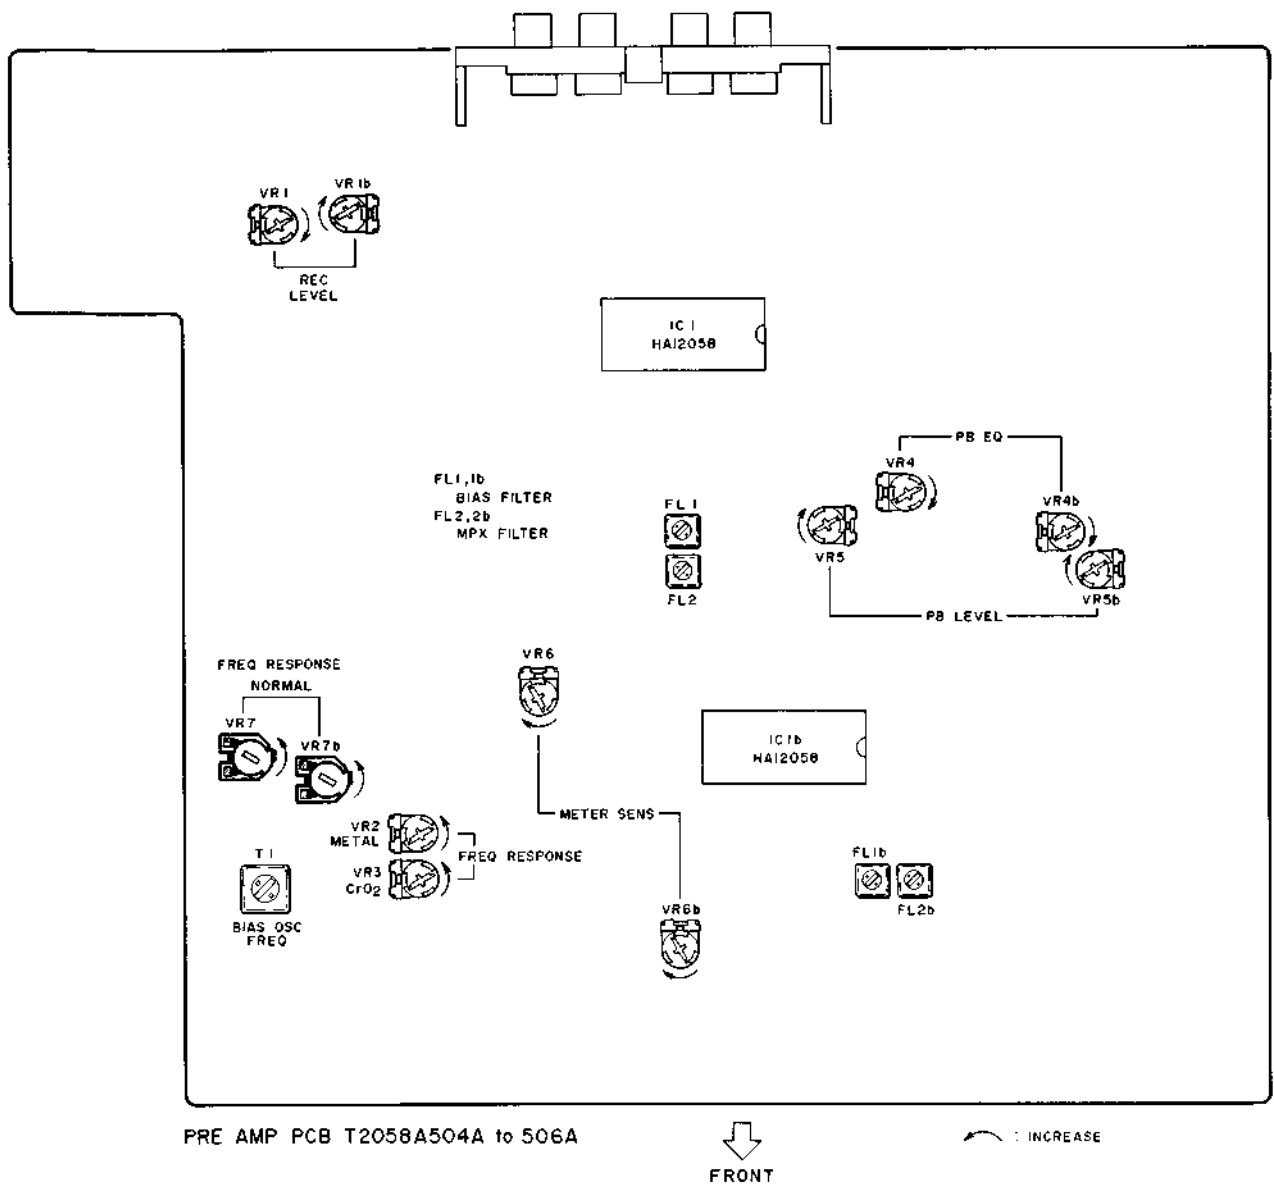

Fig. 7-3 GX-R55 Pre-Amp PCB ADJ Points
4. Refer to Fig. 7-3 for above adjustments.